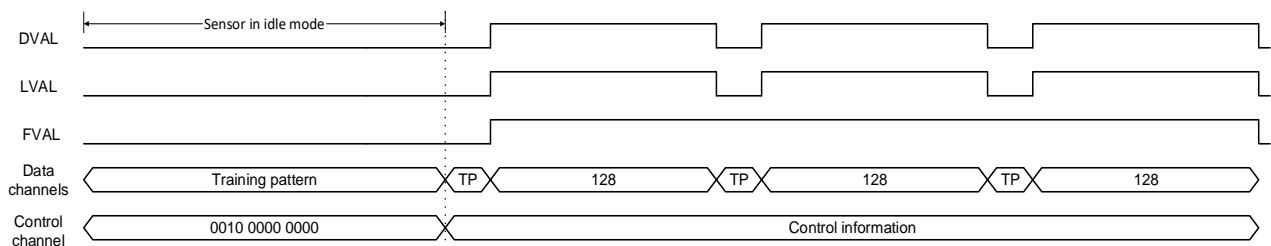

FIGURE 33: TRAINING PATTERN LOCATION IN THE DATA AND CONTROL CHANNELS
Figure 33 shows the location of the training pattern (TP) on the data channels and control channels when the sensor is in idle mode and when a frame of 3 rows is read-out. The default mode of 16 outputs is selected.